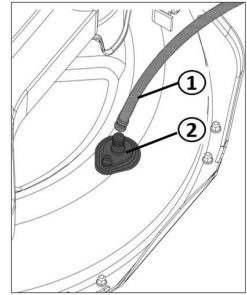

Figure 34
1. Connect the water hose (Figure 34 ①) to the cleaning fitting (Figure 34 ②) and turn on the water.